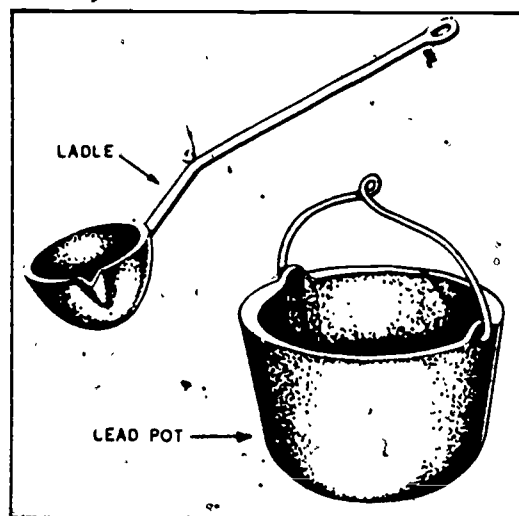

Figure 3-41 Lead pot and ladle.
**Lead pot and ladle.** The lead pot, shown in figure 3-41 is used with the melting furnace as a container in which to heat lead. It is placed on top of the melting furnace when in use. A ladle, also shown in figure 3-41, is used to dip the molten lead from the pot and pour it into the joint when you are making soil pipe joints. Although the melting and handling of hot lead in plumbing work is a commonplace procedure, you must take all necessary precautions to avoid being burned.